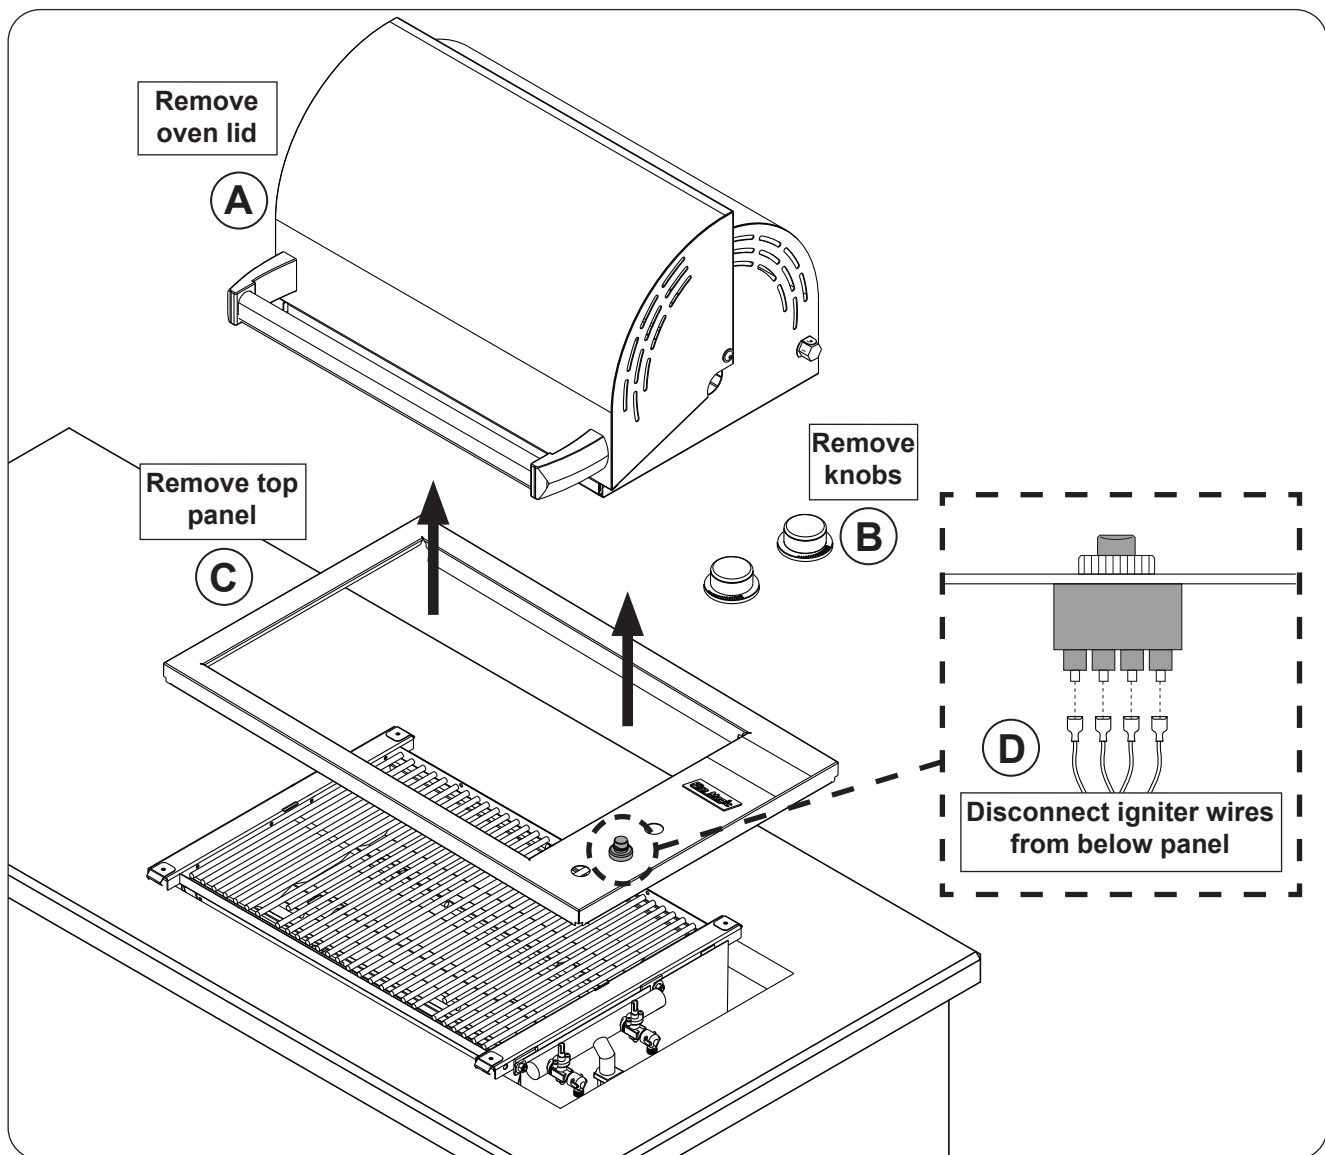

Fig. 35-1 Top panel removal
2. Carefully lift off the oven lid and set it aside (see Fig. 35-1, A).
3. Pull the control knobs from their stems and set them aside (see Fig. 35-1, B).
4. Carefully, but firmly, detach the top panel from the frame (see Fig. 35-1, C). You will need to pull up on the corners to release the top from the springs clips.
5. While lifting the top panel, carefully disconnect the igniter wires from underneath the top panel to completely free the panel from the grill (see Fig. 35-1, D).